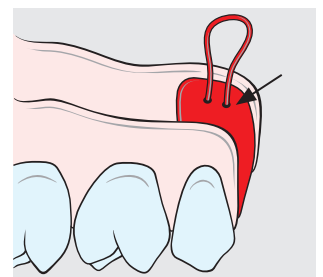

Fig. 7
a) Fabrication technique if the impression is taken with the existing Mini-SG® female part without the sliding insert: Carefully fill the female part with a suitable die/model material, e.g. epoxy resin, and provide retention for the stone model, e.g. with looped wire (Fig. 7).